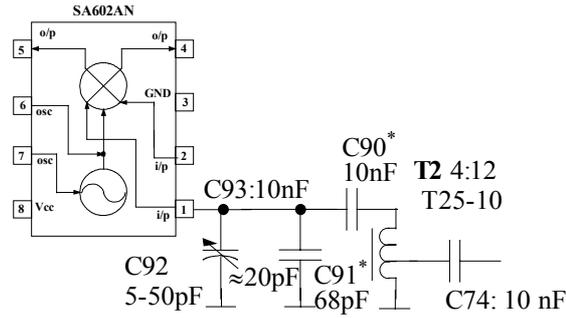

Figure 6.16 RX mixer input circuit
14. The RX input circuit is given in Figure 6.16.